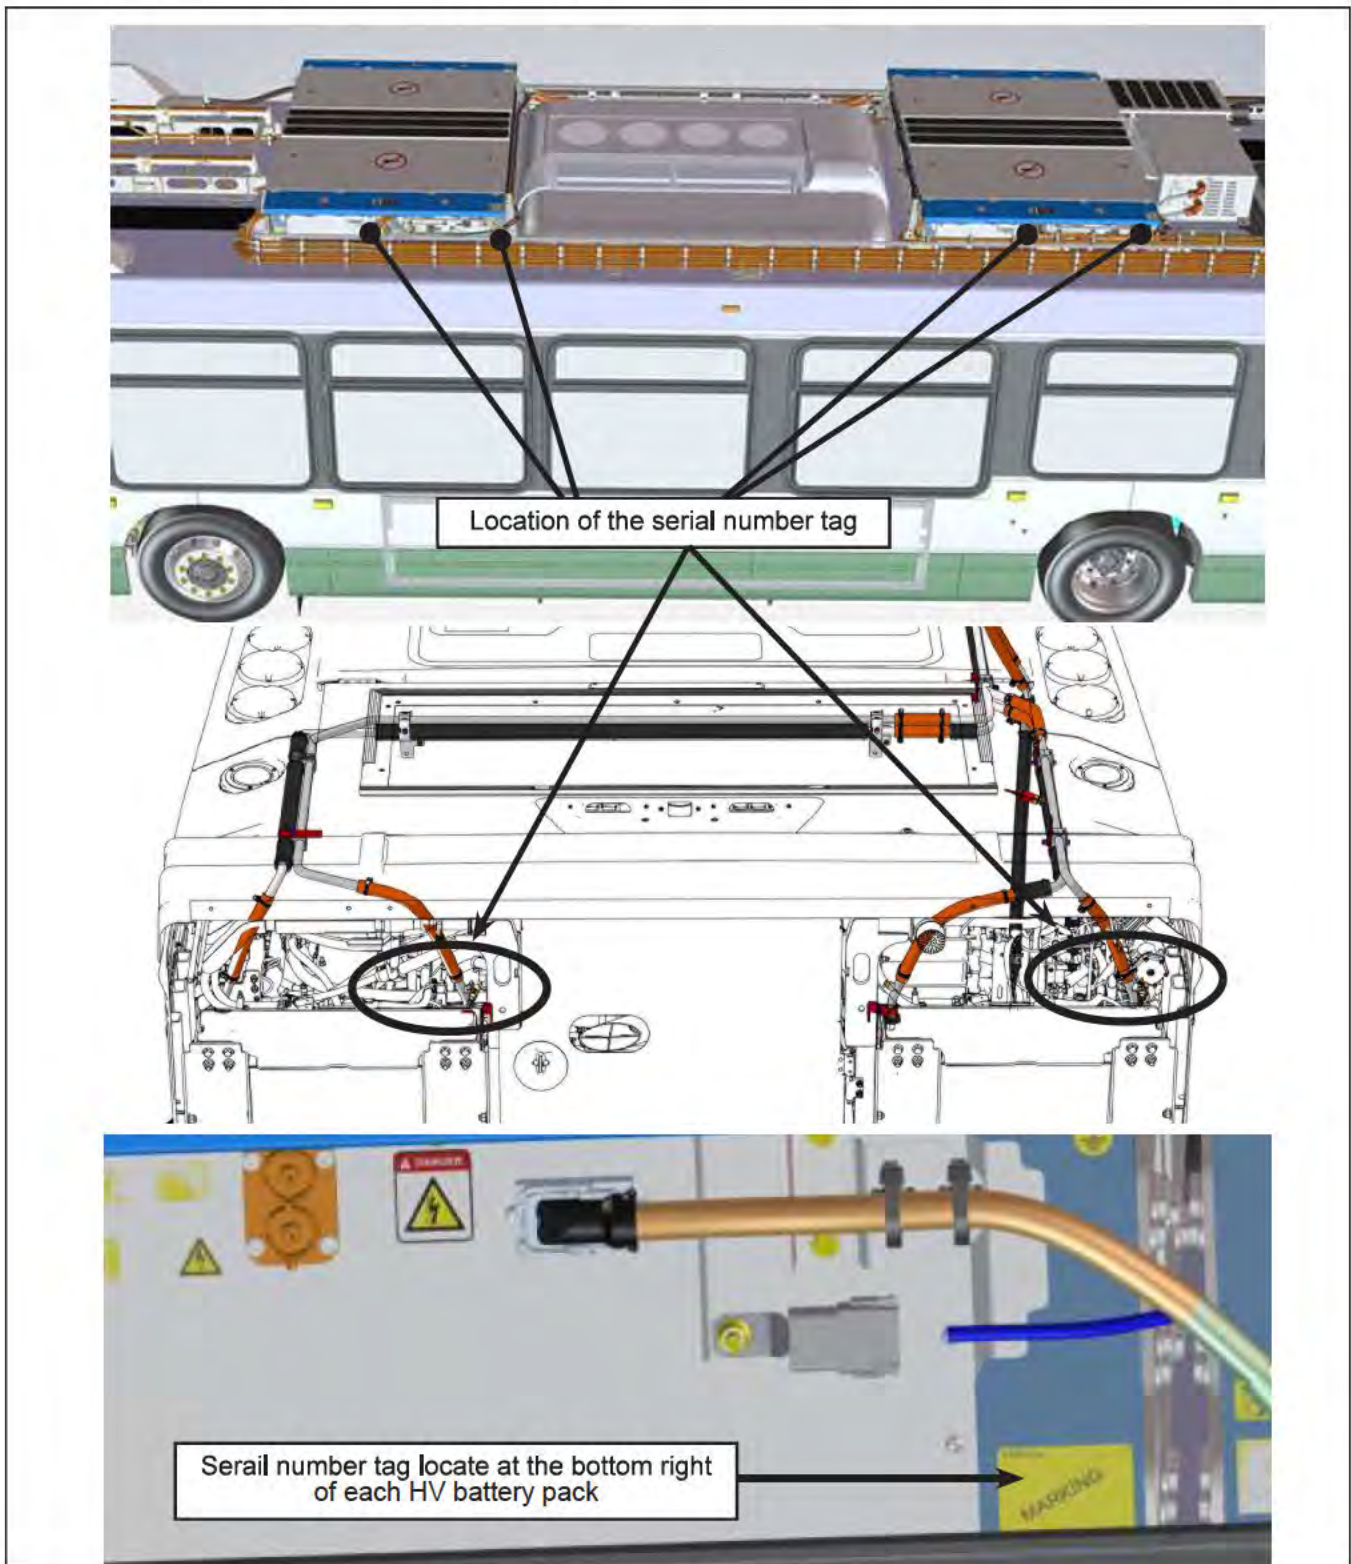

Figure 1 - HV Battery Pack Serial Number Tag Location
- 1.5. Note the serial number of each removed HV battery pack and its position and write the information on the **HV BATTERY PACK SERIAL NUMBER TABLE** available in the Annex of this document. See Figure 1 for the serial number tag position on the battery pack.